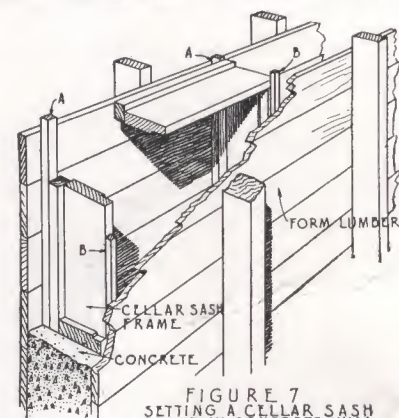

FIGURE 7
- (f) Cellar frames, as shown and located on the BASEMENT PLAN and SECTION should be set into the forms as they are built. As the frame is not the full thickness of the wall, a piece of smoothed lumber (see A and B in Figure 7) should be tacked to the frame to fill it out to the full thickness of the wall. The Cellar Sash Frames, however, should not be set into the forms until the concrete has been poured almost to the bottom of where the Frame is to set, otherwise it will be difficult to push the concrete fully under the Sash Frame.